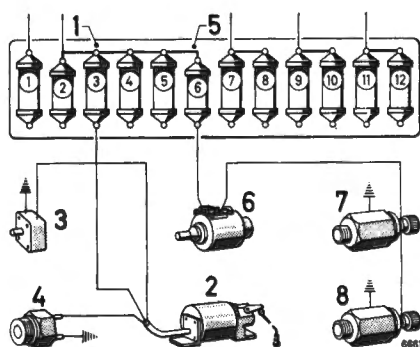

Fig. 00-16/17
- a) On Models 220 SEb and 300 SE with automatic transmission check the idle engine speed with the selector lever in positions "4" and "R". Apply the hand brake and engage the selector lever. When the selector lever is engaged the idle engine speed must be the same as in lever position "0", i. e. the same as the prescribed idle speed adjusted in accordance with paras 2-4 (see Job. No. 00-0); it may fall by a maximum of 30 rpm. If the prescribed idle speed is not obtained check the working of the lifting magnet (1) (Figs. 00-16/19 and 00-16/20) and the two oil pressure switches (3) and (4) on the transmission (Fig. 00-16/18).